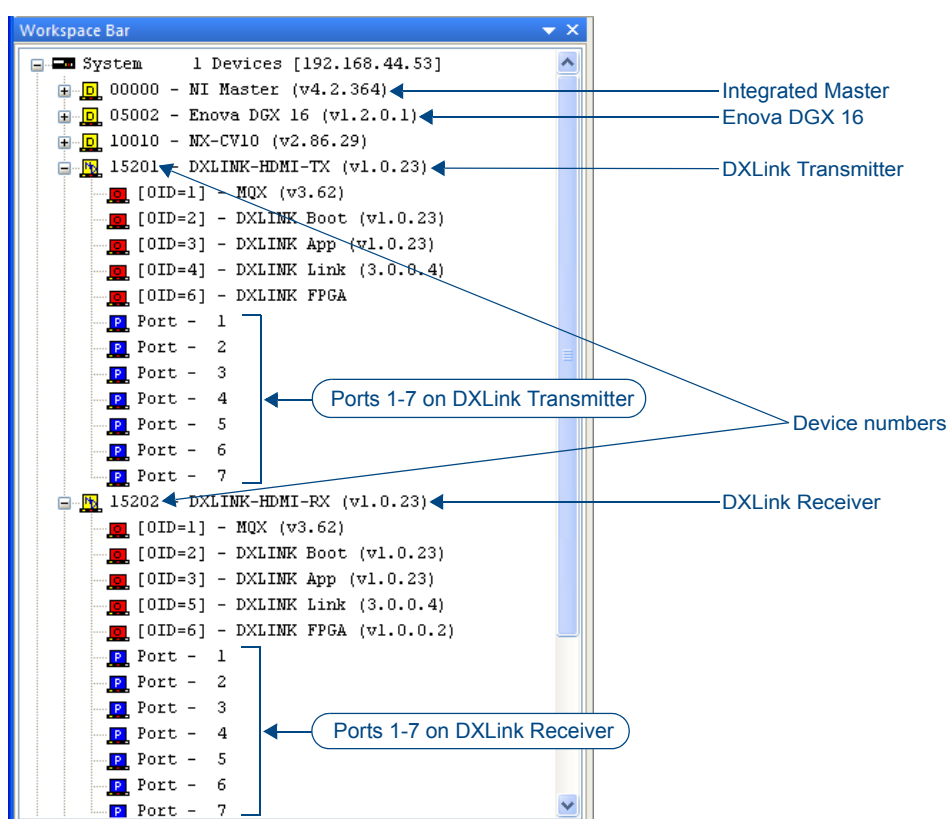

FIG. 32 NetLinx Studio – Integrated Master, Enova DGX 16, DXLink Transmitter, and DXLink Receiver
When a Transmitter and/or a Receiver are being used in conjunction with a switcher as an endpoint system, the switcher's integrated Master is used for the IRL file transfer. FIG. 32 shows a Transmitter and a Receiver bound to the integrated Master in an Enova DGX 16 in NetLinx Studio's OnLine Tree. Follow the instructions on the top of page 66 to prepare an endpoint system for IRL file transfer and the instructions on page 68 for the actual transfer.
7. Determine the Device Number assigned to the target Transmitter or Receiver when it was bound. For the Device Number location, see FIG. 32 on the previous page. The Transmitter or Receiver is ready for the IRL file transfer (see page 68).
8. Right-click in the workspace and select Refresh System OnLine Tree. The module appears in the OnLine Tree. Locate the DXLink Module and the virtual device ID assigned to it (32002 in the example). For the Device Number location, see FIG. 32 on page 65.